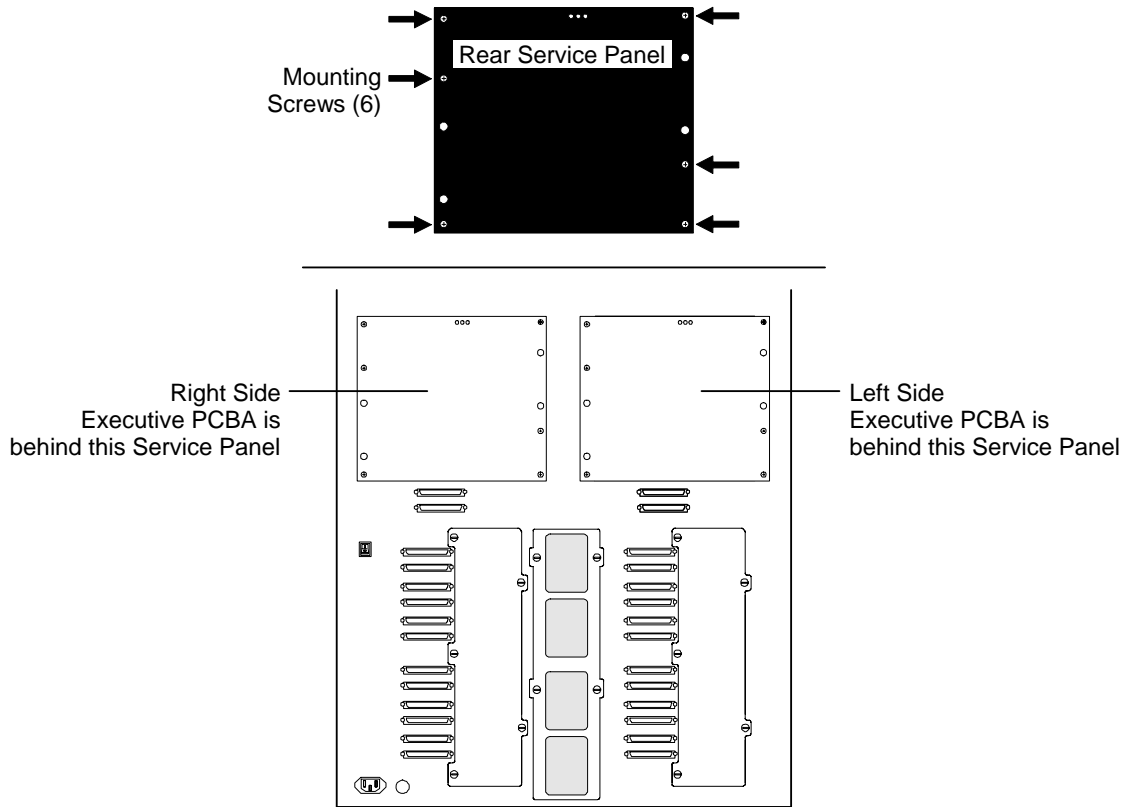

Figure 7-36 View of Rear Service Panels
2. Use a number 2 Phillips screwdriver to remove all six Rear Service Panel mounting screws, then remove the Rear Service Panel (Figure 7-36).
13. Reinstall the Rear Service Panel, then use a number 2 Phillips screwdriver to re-install all six Rear Service Panel mounting screws (Figure 7-36).